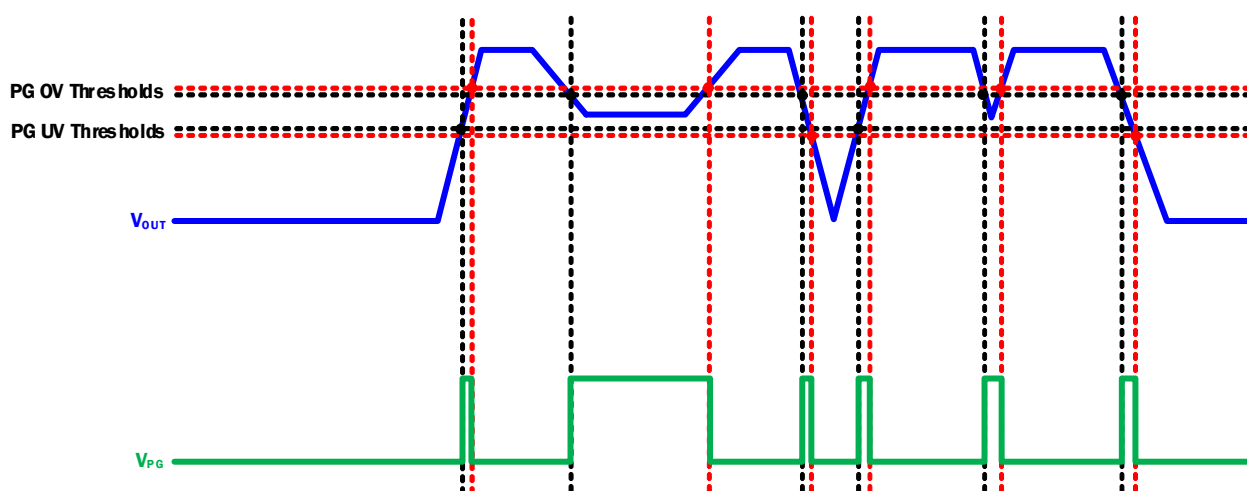

Figure 123. PG Operation
When the output voltage is below the PG Undervoltage (UV) thresholds, the fast-start up circuitry is activated to bring V_{OUT} within the $\pm 10\%$ window. When the output voltage is above the PG Overvoltage (OV) thresholds, a $1\text{k}\Omega$ pull-down resistor connects V_{OUT} to GND to discharge the output capacitor and bring the output voltage back within the $\pm 10\%$ window. Figure 123 illustrates the PG operation.